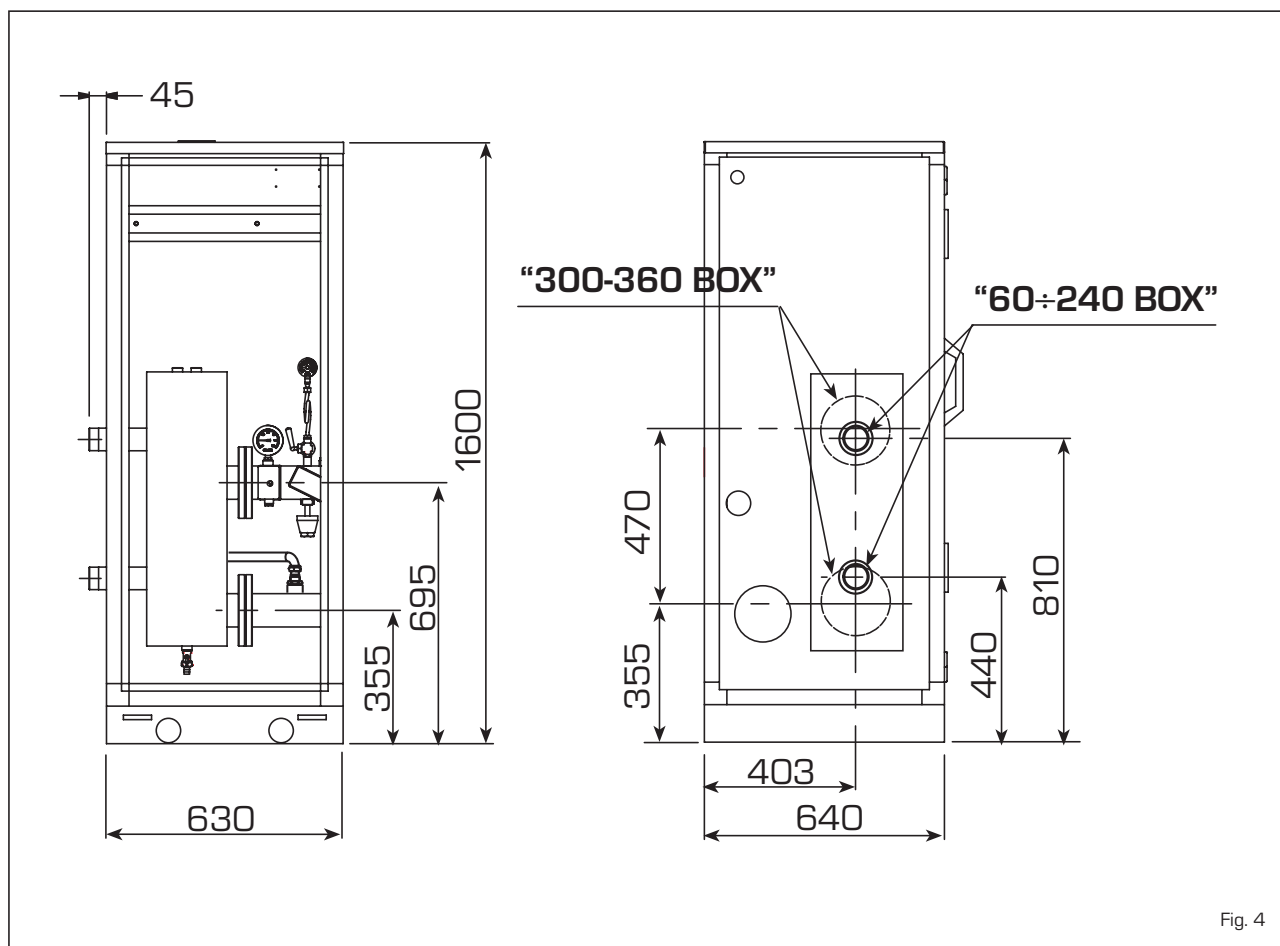

Fig. 4
- Single box (size: 630 x 640 x 1600) for hydraulic separator/safety kit, code 8101517 (figure 4)